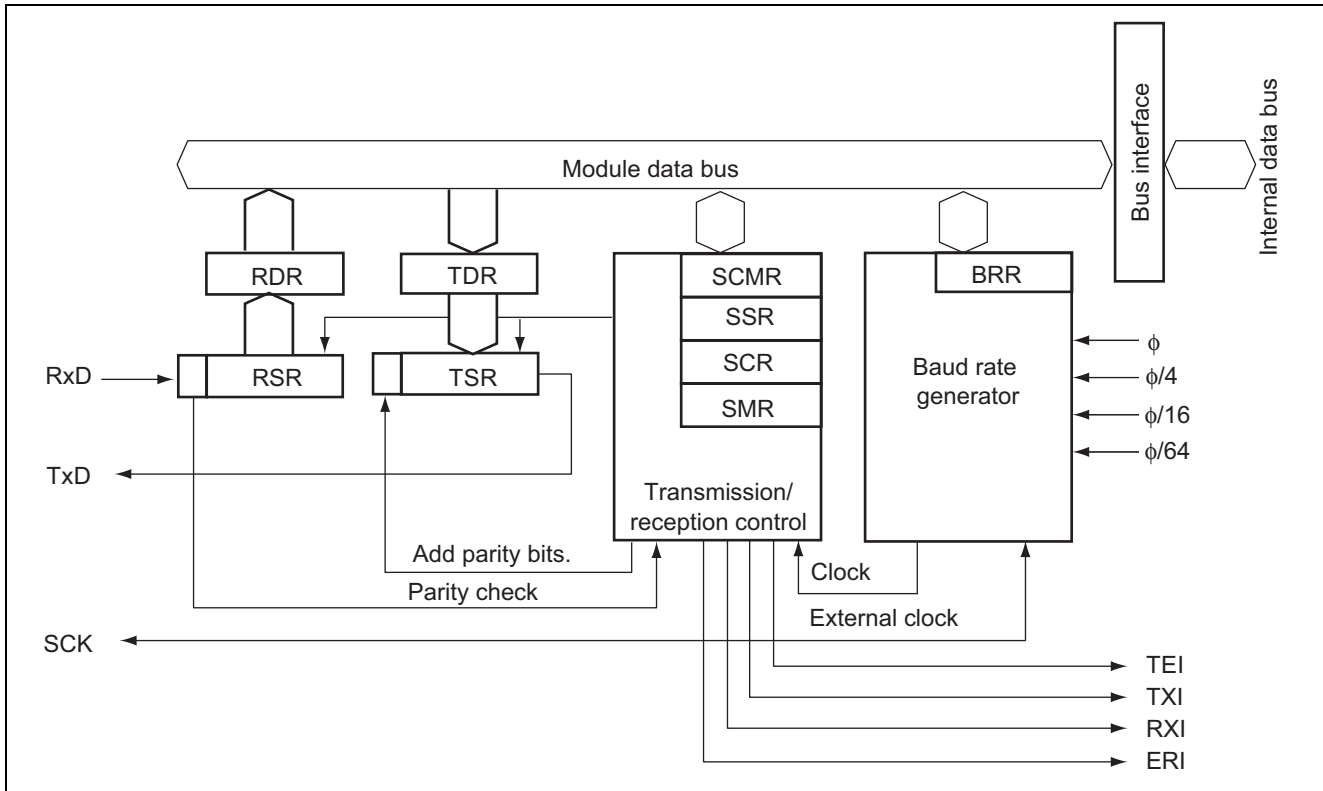

Figure 2 Block Diagram of Asynchronous Serial Data Reception Function
1. Figure 2 shows a block diagram of the serial communication interface (SCI), and the following is the description for the block diagram: